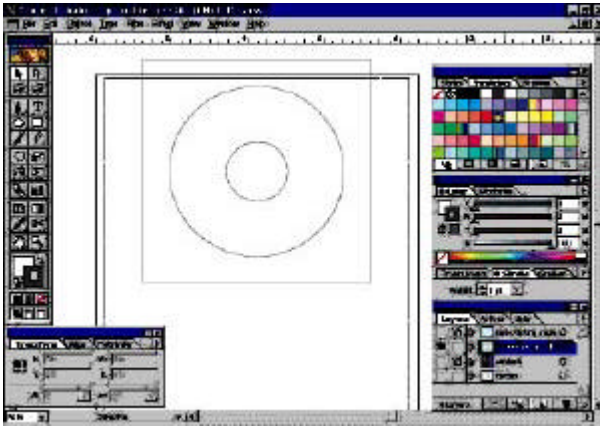

Fig. 5-2 Properly placed concentric circles with rectangle mask
7) Create a square larger than the diameter of the larger circle and place it so that there is about a half inch of space on all sides between the circle and square (Fig. 5-2). The square should not extend more than 5.60 inches below the top of the page.